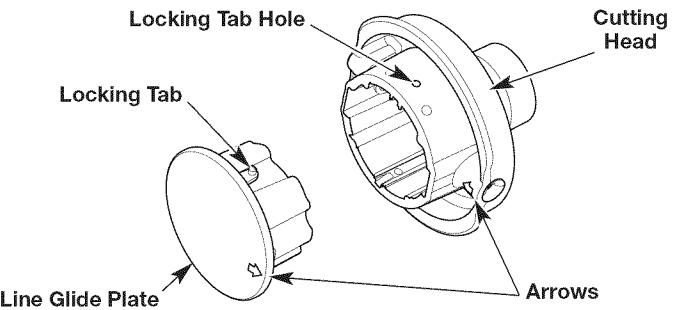

Fig. 19
2. Insert a small Phillips screwdriver into the locking tab hole and push the locking tab inward (Fig. 19). At the same time, pull the line glide plate out of the cutting head.
4. Align the arrow on the line glide plate with the arrow on the cutting head (Fig. 19).